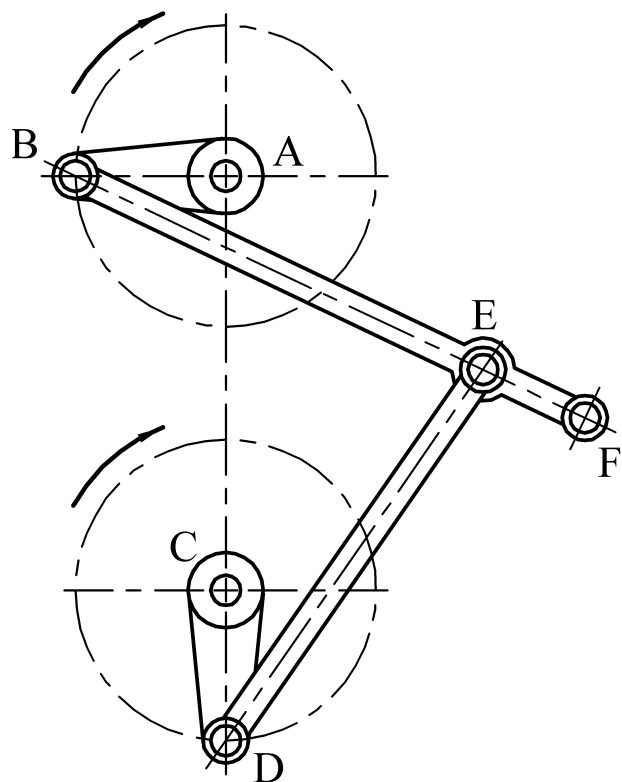

Fig. 3
- (b) Fig. 3 shows a pin-jointed mechanism. The cranks AB and CD revolve about A and C respectively. Both cranks rotate at the same speed and in the same direction.